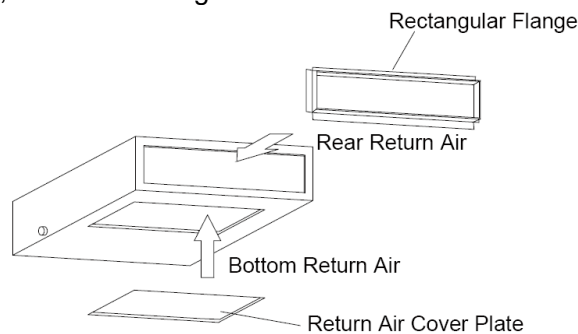

Figure 3-1-22
①. The maximum length of the duct means the maximum length of the supply air duct plus the maximum length of the return air duct.
②. The duct is rectangular and connected with the air inlet/outlet of the indoor unit. Among all supply air outlets, at least one should be kept open.
(2) The default installation location of the rectangular flange is at the back and the return air cover plate is at the bottom, as shown in Figure 3-1-22.